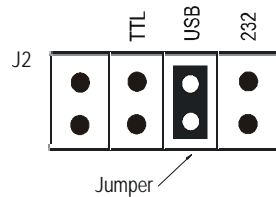

Figure 6: Jumper 2 position for a USB connection
3. Install jumper J2 in the correct position for a USB connection (Figure 6).